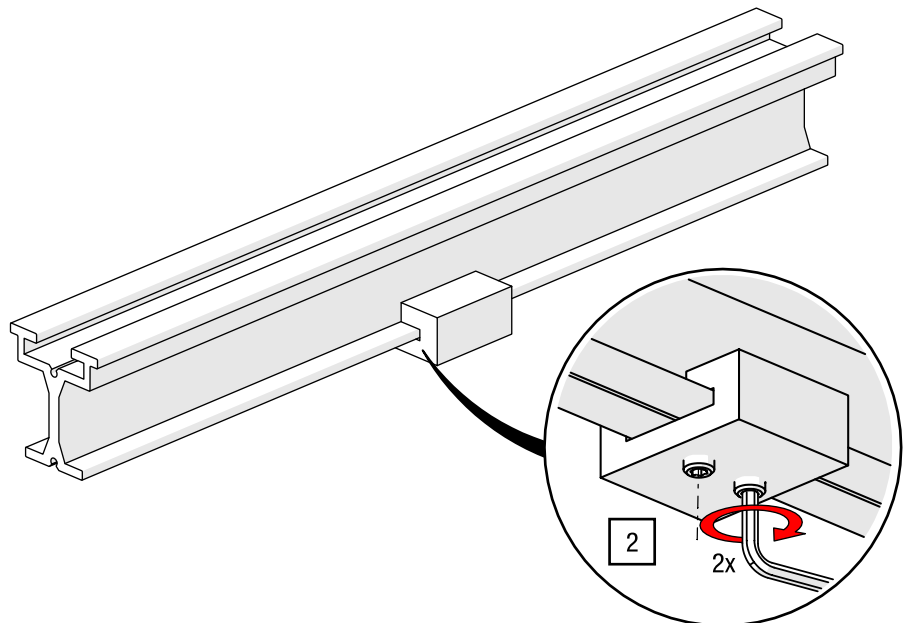

Fig. 51: TRUMPF 95/STUDIO end stop HD – Tighten grub screws
2. Tighten the M6 grub screws to 11 Nm using an Allen key AF 3 (see Fig. 51).